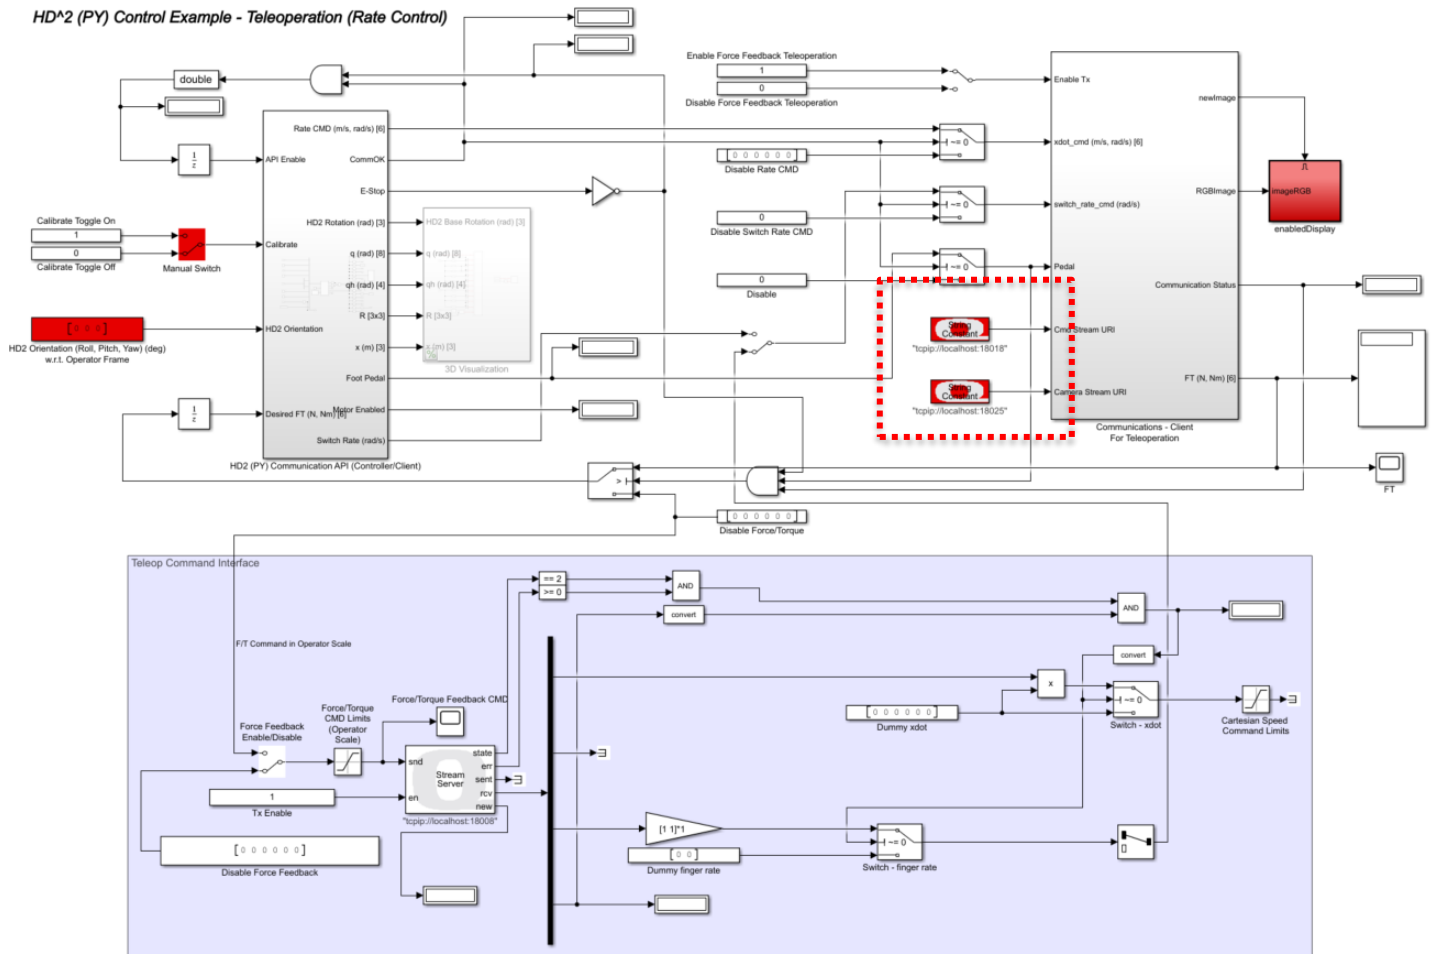

Figure 1: HD2_QArmTeleopClient block diagram with string constant blocks highlighted.
2. Modify the two red "string constant" blocks (highlighted in Figure 1), replacing "localhost" with the IP address of the remote PC.